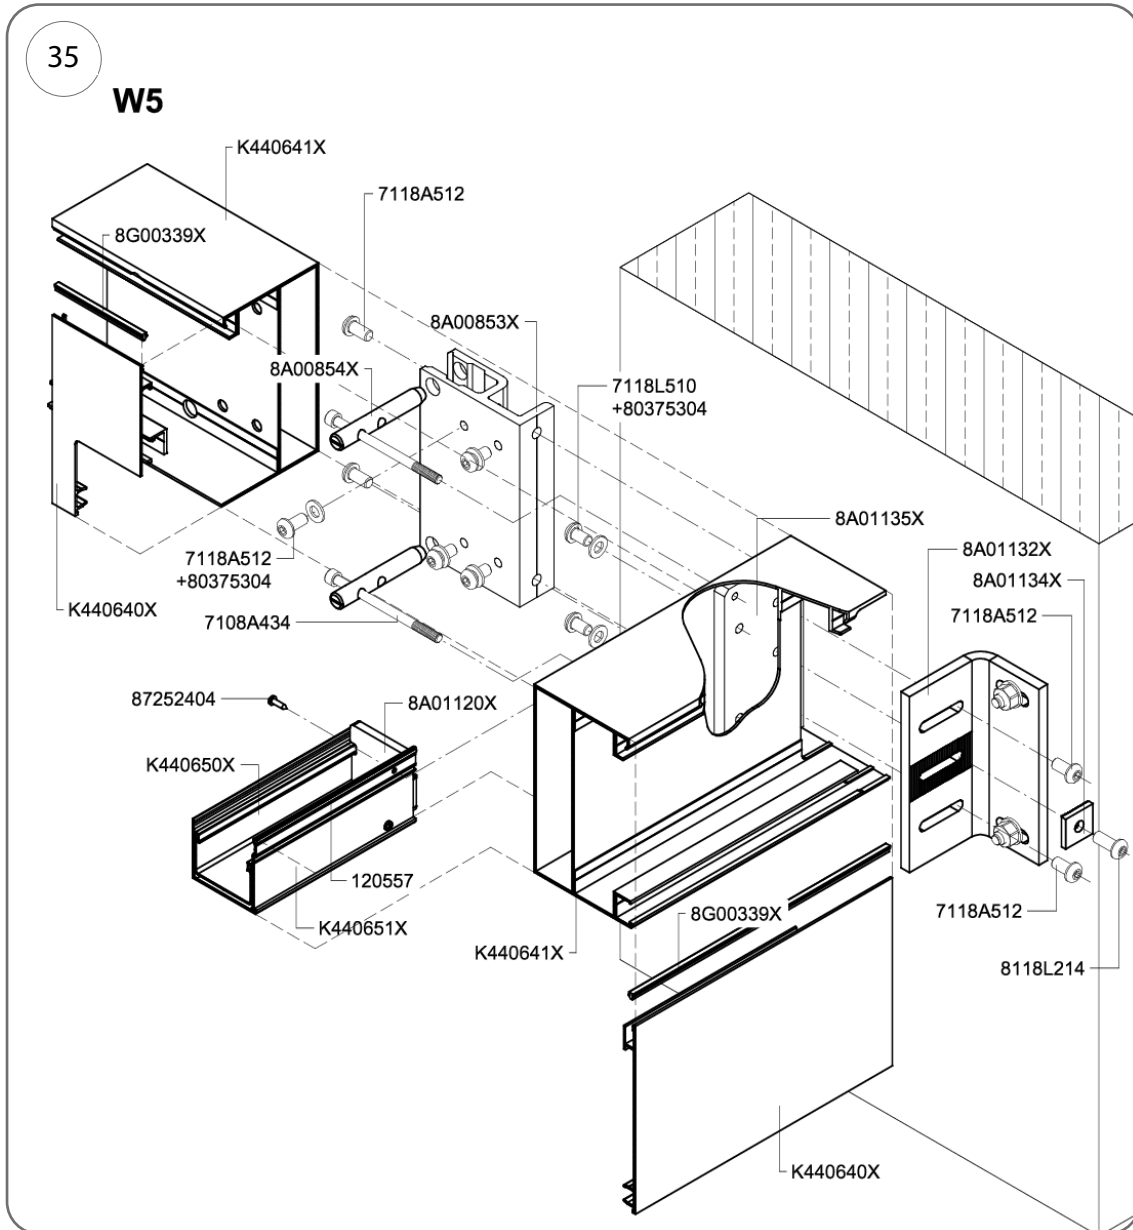
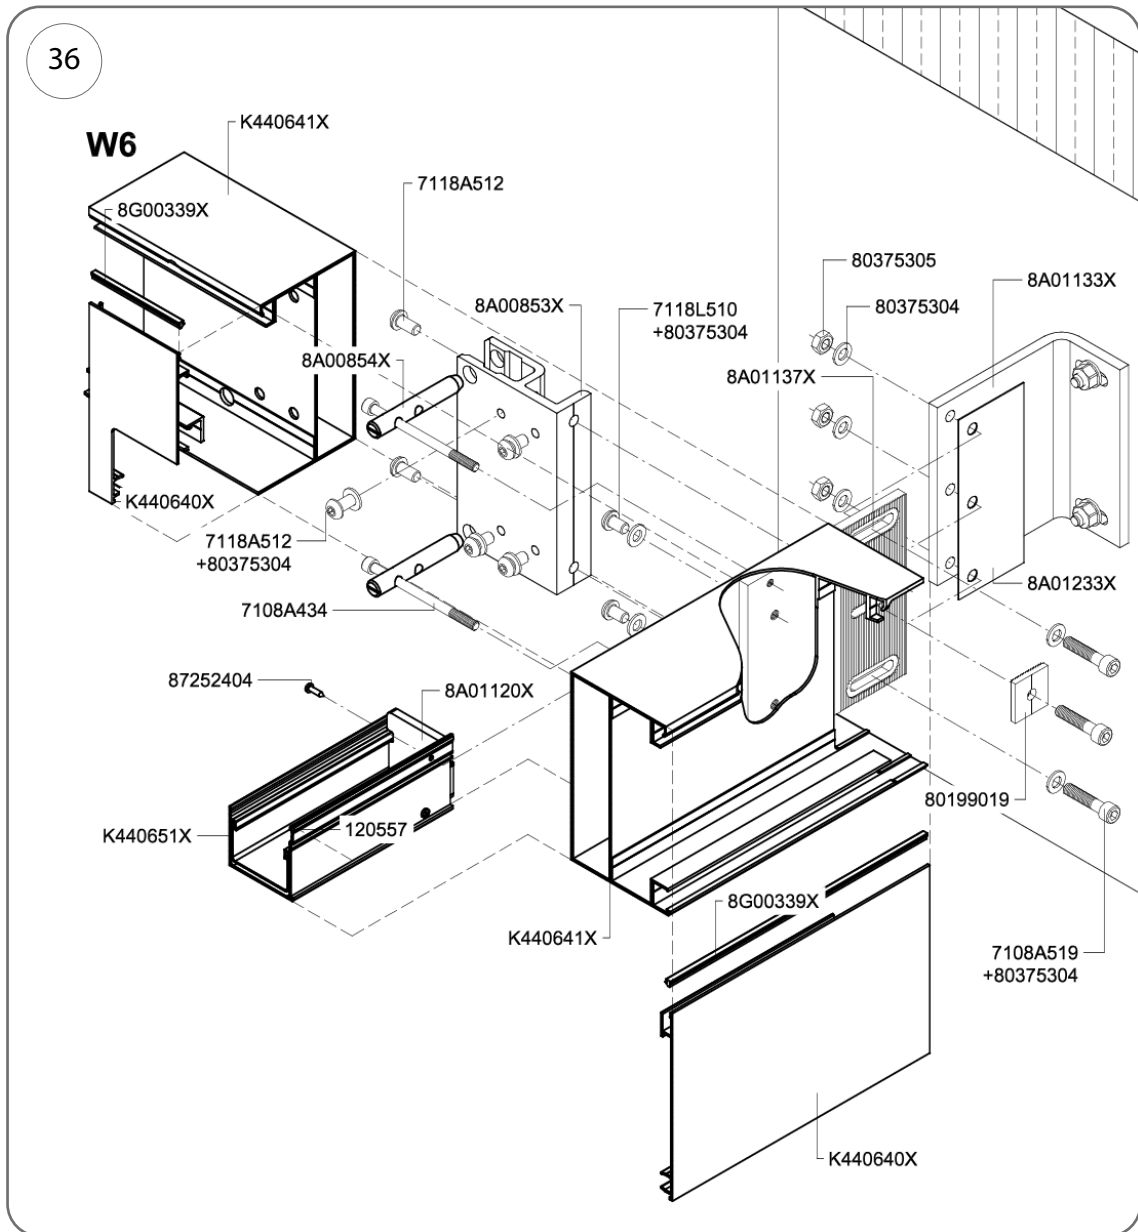

Fig. 35
Fig. 36
1. Insert the wall-mounted bracket plate (cat. no. 8A01135X) (Fig. 35) and cat. no. 8A01137X (Fig. 36) and secure it to the side wall of the rafter using 2 M10 x 16 mm bolts (cat. no. 7118L510).
4. Pass two bolts (cat. no. 7108A434, M8 x 120 mm) through the holes in the pins 8A00854X and screw them into the wall bracket plate 8A01135X (Fig. 35), 8A01137X (Fig. 36).